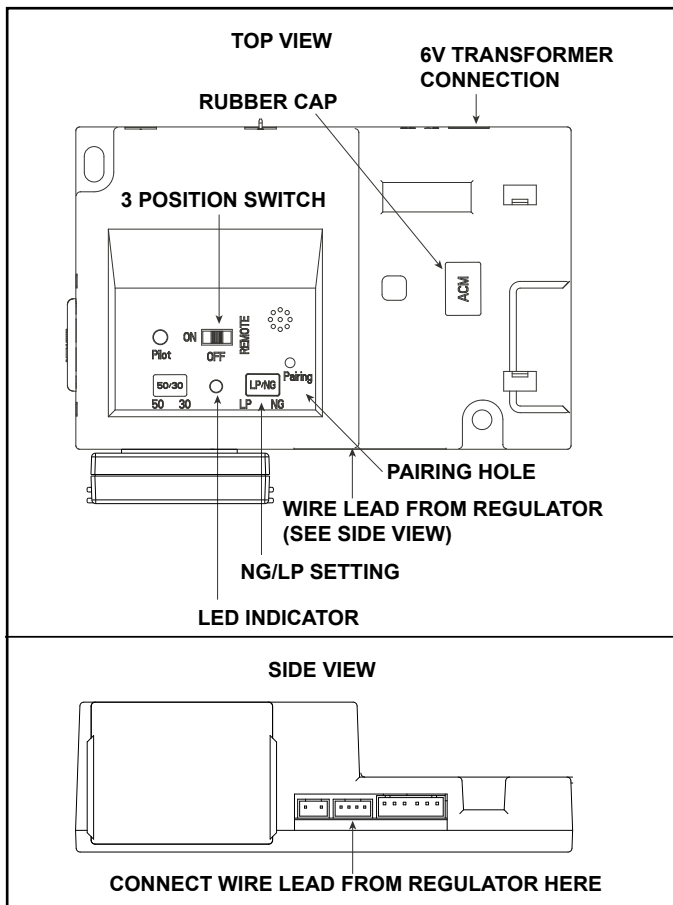

Figure 10 Module - IntelliFire Touch
7. Switch control module to OFF mode using selector switch. See Figure 10.
18. Using a small screwdriver, carefully adjust the setting on the module to the appropriate gas type. Slide the LP/NG selector switch to the right for NG or to the left for Propane. See Figure 10. Excessive force may cause damage to the module.